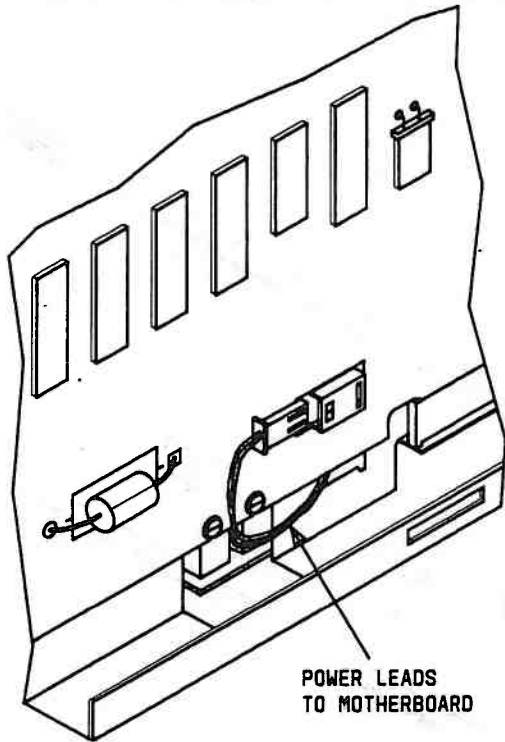

Figure 5-57. Motherboard +5 and GND Terminal Connectors
12. Invert the System Module and loosen the two screws that secure the +5 and GND terminals of the Motherboard to the Display Controller (Figure 5-57).